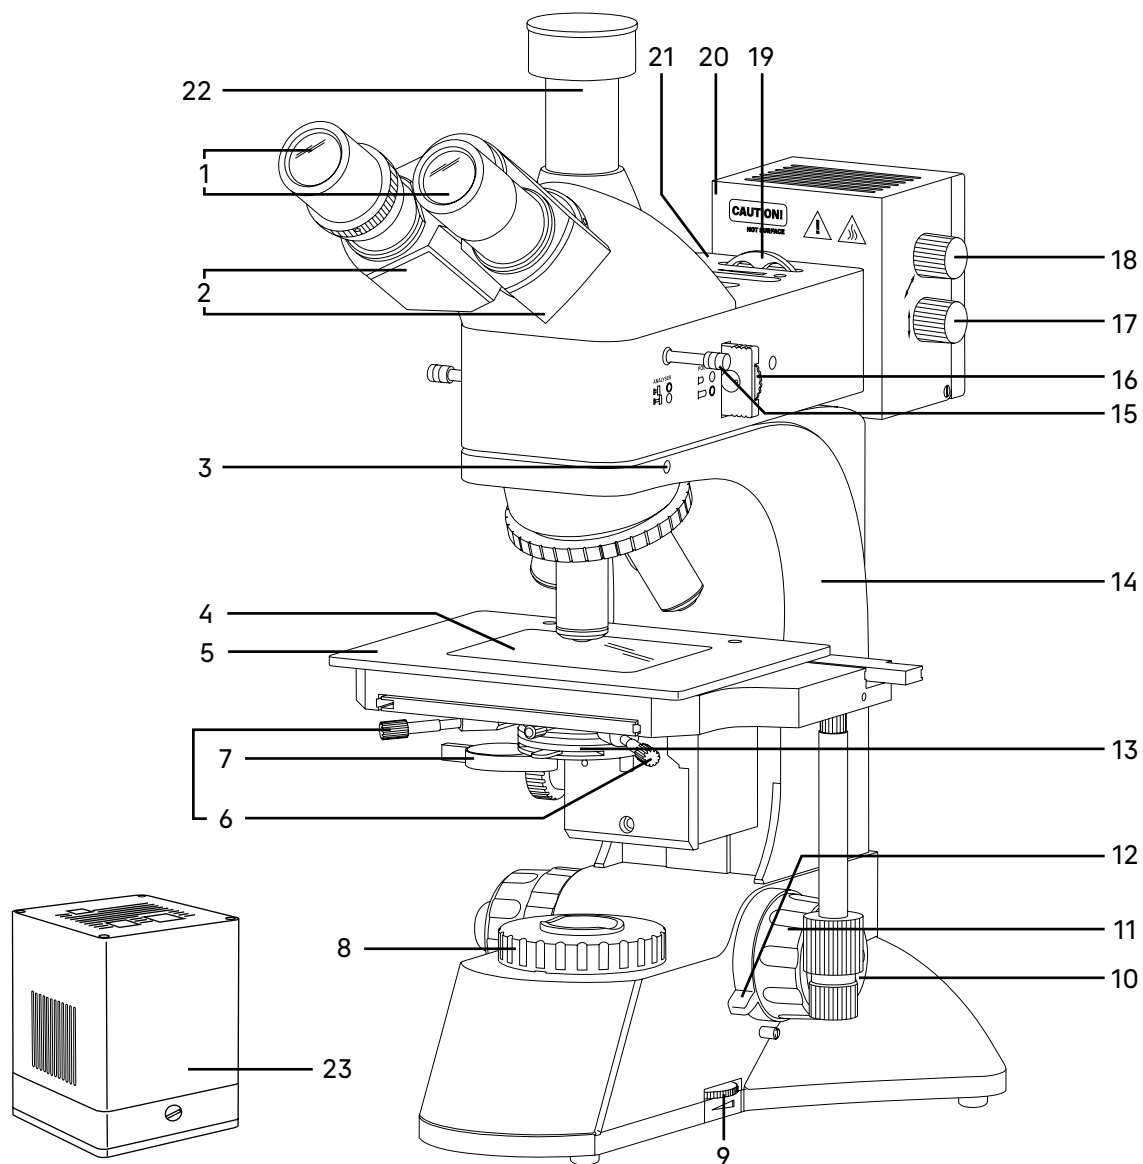
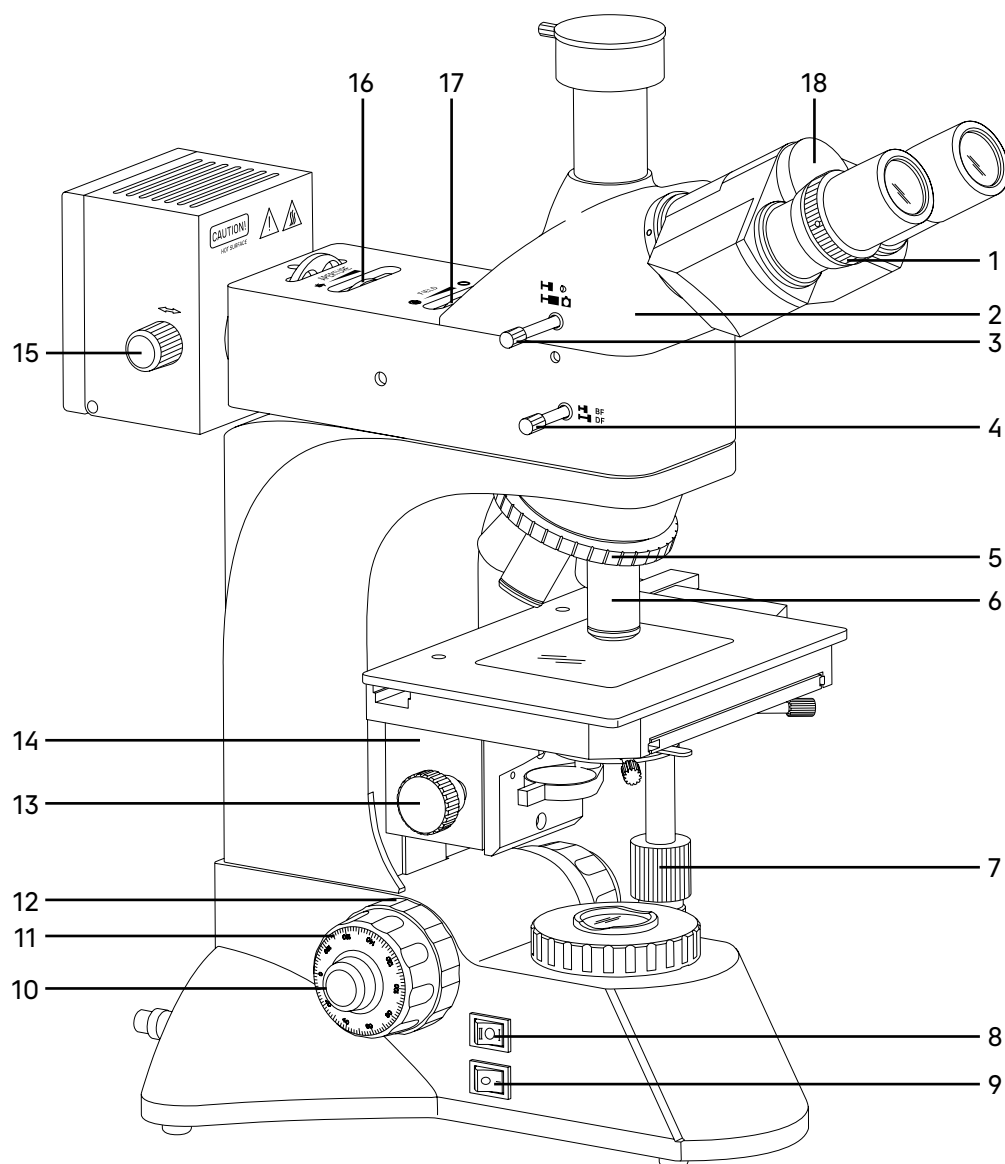

Fig. 1. MAGUS Metal D600 BD Microscope. View from the right
Fig. 2. MAGUS Metal D600 BD Microscope. View from the left
The general view of the microscope is given in Fig. 1, 2 and 3.
Parts attached to the stand 14 (Fig. 1):
- revolving nosepiece 5 (Fig. 2) with objectives 6 (Fig. 2)
- stage 5 (Fig. 1)
- condenser mount 14 (Fig. 2).
There is an ON/OFF switch 9 (Fig. 2) on the left side of the base. The power is on when the switch is in "–" position. The power is off when the switch is in "0" position.
There is also a transmitted/reflected light switch lever 8 (Fig. 2) on the left of the base. Position "I" corresponds to the transmitted light illuminator, position "II" – to the reflected light illuminator.
There is a brightness adjustment ring 9 (Fig. 1) on the right side of the base.
Focusing on the specimen is achieved by adjusting the height of the stage 5 (Fig. 1). Coarse focusing is performed by rotating the coaxial knobs 11 (Fig. 1 and 2) on both sides of the microscope stand.
Fine focusing is performed by rotating the knobs 10 (Fig. 1 and 2) on both sides of the microscope stand. Fine focusing allows for more precise focusing on the specimen and re-focusing the microscope to get an accurate image resolution when changing objectives.
The coarse focusing tension adjusting knob 12 (Fig. 2) is the ring between the stand and the coarse focusing knob on the left side. The ring adjusts the coarse focusing tension so that the tension is comfortable for the user, but the stage does not lower spontaneously during operation.
The coarse focusing lock knob 12 (Fig. 1) is located on the right side. Once the coarse focusing is completed, we recommend rotating the knob clockwise as far as it will go. This secures the coarse focusing position to allow for rapid re-focusing after the specimen is changed.
The microscope head 2 (Fig. 2) provides the visual observation of the specimen image.
The interpupillary distance is adjusted by rotating the eyepiece tubes 2 (Fig. 1) in the range of 48–75mm. The distance between the eyepieces matching the observer's interpupillary distance is marked on the adjustment scale 18 (Fig. 2) on the microscope head.
The diopter adjustment on the left eyepiece tube is intended to compensate for the observer's ametropia. The axial position of the eyepiece is adjusted by the ring 1 (Fig. 2). The second eyepiece tube is fixed.
A C-mount 1x adapter is installed in the trinocular tube 22 (Fig. 1) of the microscope head to fix the camera (video eyepiece). The camera is used to transmit the image to a computer screen or monitor/TV. You can switch the light path to the trinocular tube using the lever 3 (Fig. 2). The lever has two positions: 100/0 and 0/100.
The microscope kit includes eyepieces 1 (Fig. 1). The eyepieces have long eye relief and are designed to work with or without glasses.
Revolving nosepiece 5 (Fig. 2) allows for the installation of five objectives 6 (Fig. 2). Objectives are changed by rotating the knurled ring of the revolving nosepiece until the objective fits into place.
The X/Y stage 5 (Fig. 1) allows for moving the specimen in two mutually perpendicular directions using the knobs 7 (Fig. 2) located on the same axis.
Stage size: 210mm×140mm. The stage moving range is 75mm in X-axis direction and 50mm in Y-axis direction. The glass stage plate 4 (Fig. 1) allows working with transparent and translucent objects.
The condenser 13 (Fig. 1) is installed using the mount 14 (Fig. 2) under the microscope stage. It has screw type fastening. You can move the condenser along the optical path of the microscope using the condenser focus knob 13 (Fig. 2) located on the left of the observer under the stage. The condenser focusing range is at least 13mm.
The condenser is centered in the optical path using two screws 6 (Fig. 1).
The aperture diaphragm is adjusted (opened/closed) by the knob on the condenser 13 (Fig. 1). For best image quality, the aperture diaphragm of the brightfield condenser should be closed to approximately 1/3 of the objective exit pupil diameter.
There is a frame with a flip-down lens 7 (Fig. 1) attached to the brightfield condenser from below, which is used to improve illumination and obtain a clearer image of the specimen. When 4x objectives are used, it is recommended to introduce it into the optical path.
The bulb is powered from the AC power supply through a power source built into the stand. The illuminator is switched on by means of an ON/OFF switch 9 (Fig. 2) and a switch 8 (Fig. 2). The brightness is adjusted using the ring 9 (Fig. 1).